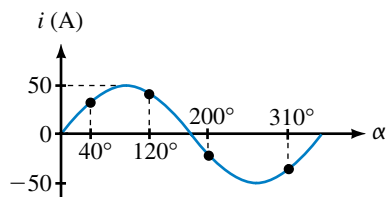

FIGURE 15–82
10. Determine the period and frequency for the waveform of Figure 15–80. How many cycles are shown?